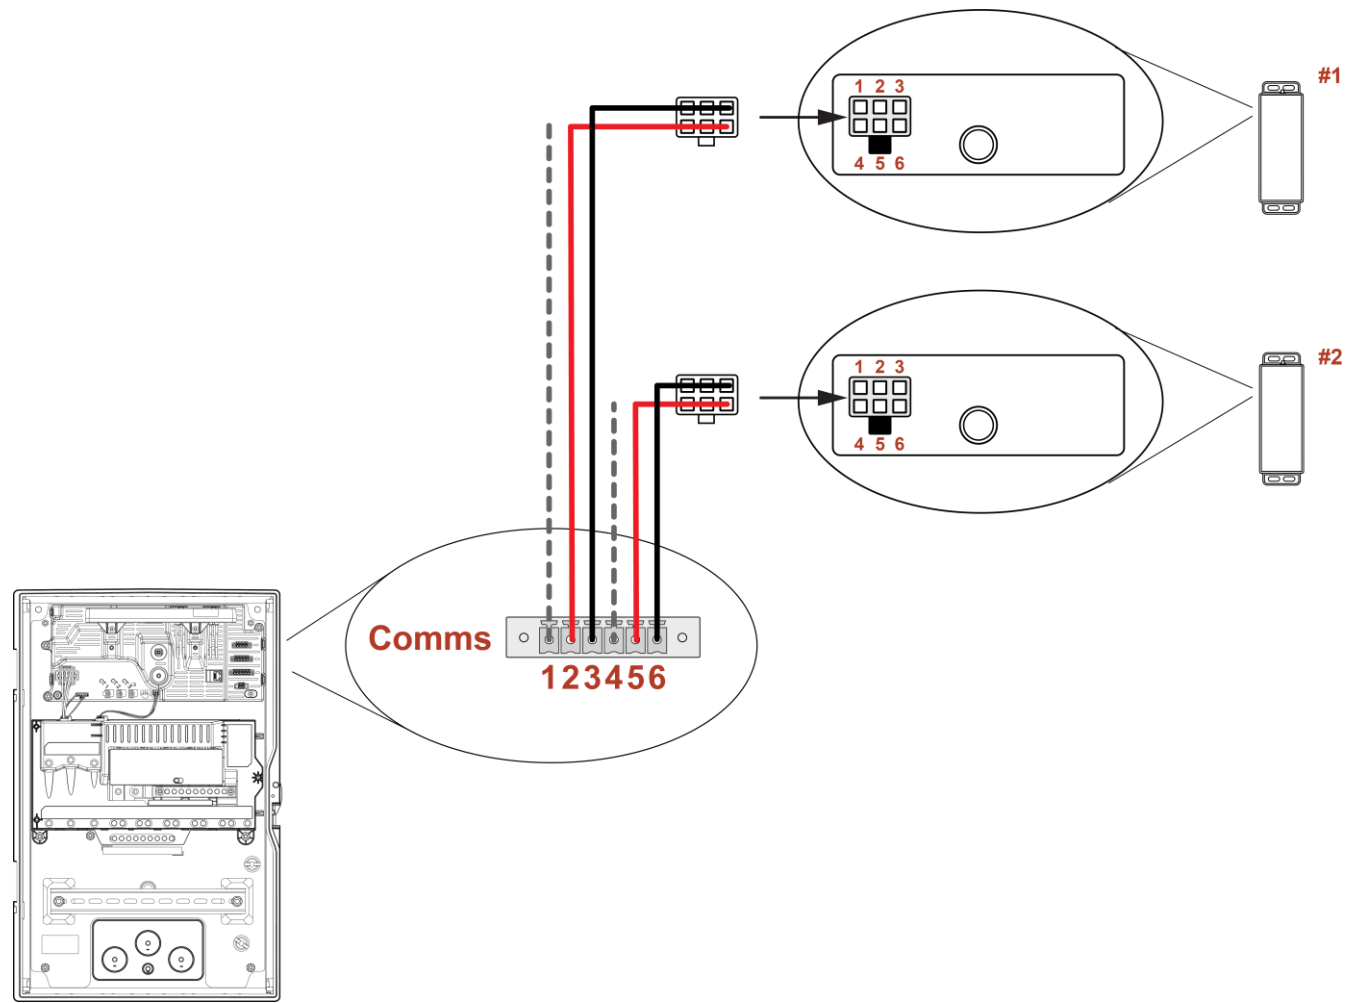

Figure 22: Meter Communication Wiring
2. Connect the harness leads to the Backup Gateway Meter Communication ports by inserting them into the corresponding connector, according to the following table and diagram (Figure 22).